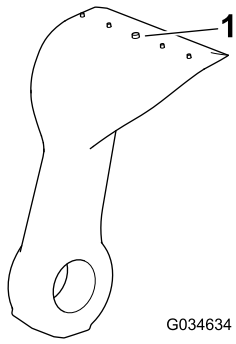

Figure 22
4. Inspect each blade for excessive wear using the wear line (Figure 22). When a blade is worn down to the wear line, replace the blade.